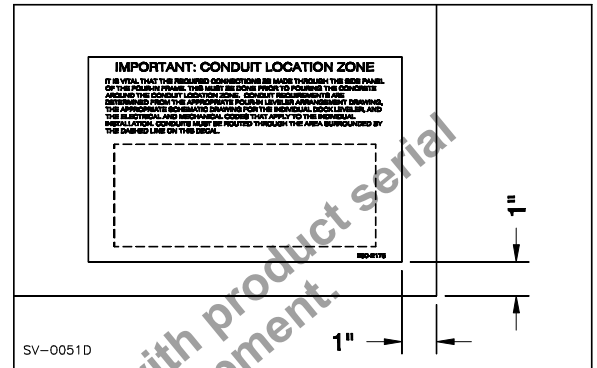

Figure 45: Conduit Installation Zone
**NOTE: It is vital that the required connections be made through the side panel of the pour-in frame. This must be done prior to the pouring of concrete around the conduit location zone. Conduit requirements are determined from the appropriate pour-in leveler arrangement drawing, the appropriate electrical schematic for the individual dock leveler order, as well as the electrical and mechanical codes that apply to the individual installation. Conduits must be routed through the lower rear section of the pour-in panel. The conduit installation zone is indicated in “Figure 45: Conduit Installation Zone” on page 36.**